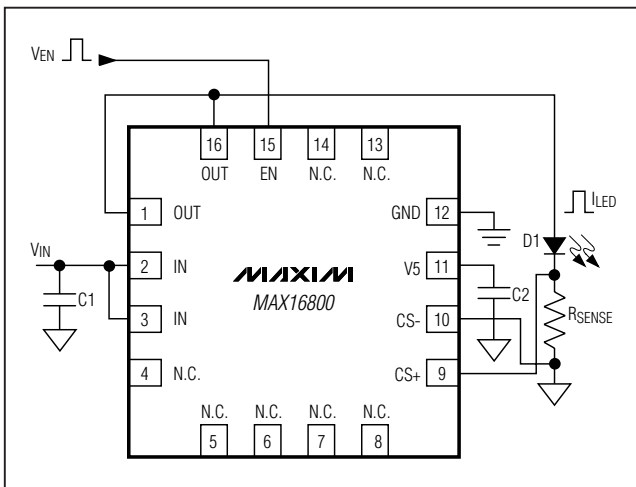

Figure 1. Pulse Application with  $V_{IN}$  at a Constant Voltage
The MAX16800 provides pulsed or chopped current dimming. Generally, high-brightness LEDs are binned to match at their full-rated current; however, LEDs from the same bin exhibit poor matching at currents other than full-rated current. To achieve uniformity, HB LED manufacturers recommend PWM pulsing of the LED current at their full-rated value. There are two methods for producing a PWM output. One method is by pulsing the enable input (EN) while having a constant voltage at IN. The other method is to connect EN to IN and pulse both EN and IN. Both methods generate a regulated-amplitude PWM current (variable duty cycle) that can provide control over the LED brightness (see Figures 1 and 2).